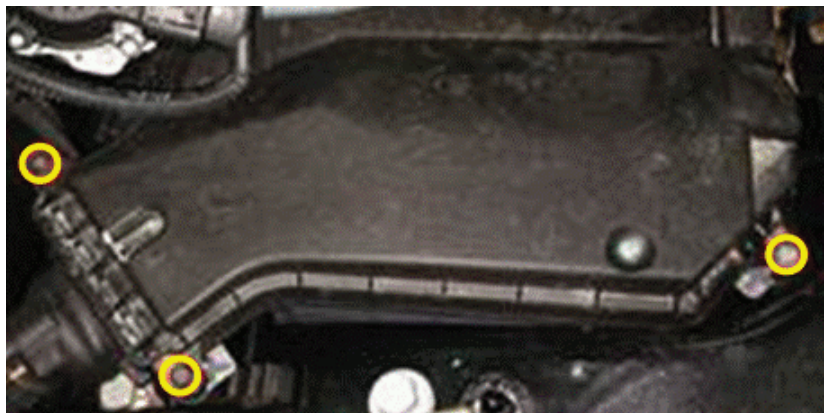

Figure 4. Screws to be removed (outlined).
5. Remove screws to gain access to the relay/fuse panel (Figure 4).